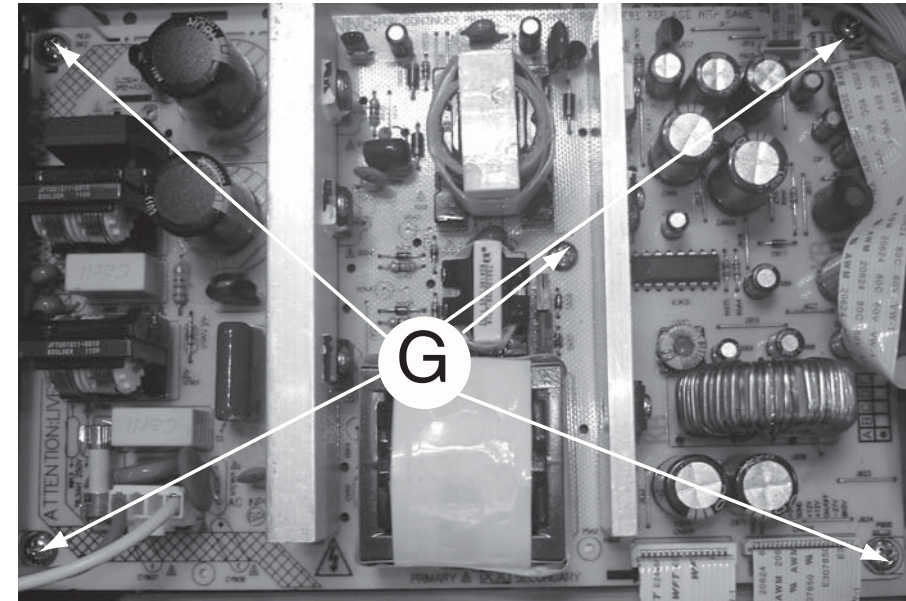

Figure 12
- 1) Loosen 5 screws "G" on the top of Power Board as shown in figure 12.